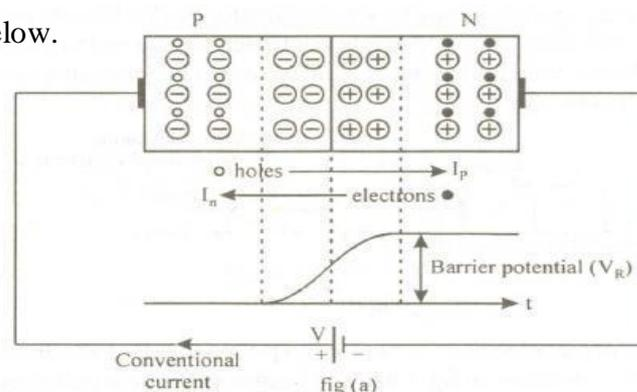

Fig.1.8 Forward biasing of p-n junction
b) Forward bias: The forward bias condition is shown in figure 1.8 .The condition under forward bias is explained below.
- To apply forward bias, connect +ve terminal of the battery to p-type and –ve terminal to n-type as shown in fig1.8 below.
- The applied forward potential establishes the electric field which acts against the field due to potential barrier. Therefore the resultant field is weakened and the barrier height is reduced at the junction as shown in fig1.8.